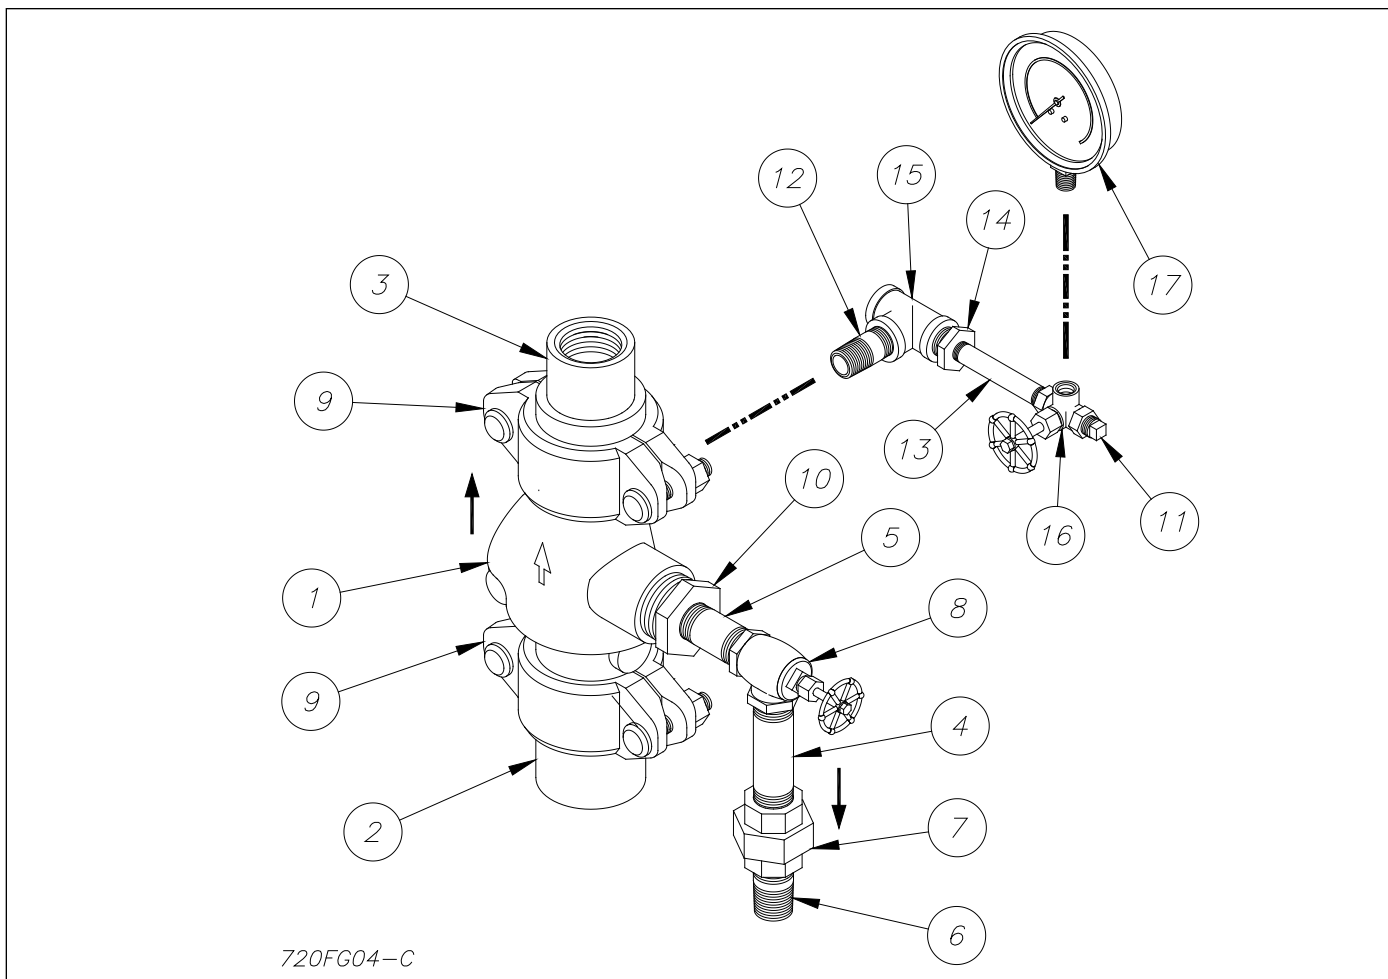

Figure 2 - Preaction Trim Kit
A preaction trim kit is available to provide a bypass drain line and to attach the air or nitrogen supply required to supervise the preaction system. This kit includes a UL Listed Reliable Model G Right Check™ Valve supplied with rigid grooved pipe couplings, as illustrated in Figure 2. To produce a Double Interlock preaction system, the switch/gauge trim kit illustrated in Figure 5 must be added.
Connect the Common (C) and Normally Closed (NC) terminals of the system low pressure switch (Figure 5) to initiating Zone 2 as shown in Figure 2 or 3. Switch contacts must be in the open position when the system is pneumatically pressurized to 10 psi (0.5 bar). Install fire detection devices to initiating Zone 1 as shown in Figure 2 or 3.
2. The Preaction Trim Kit (P/N 6501200112), illustrated in Figure 2, consists of items 1 through 17. The assembly has a convenient arrangement for draining the sprinkler system through the Model H Riser Assembly drain line. Assemble the preaction trim kit, as illustrated, using a suitable PTFE - based pipe thread sealant applied to